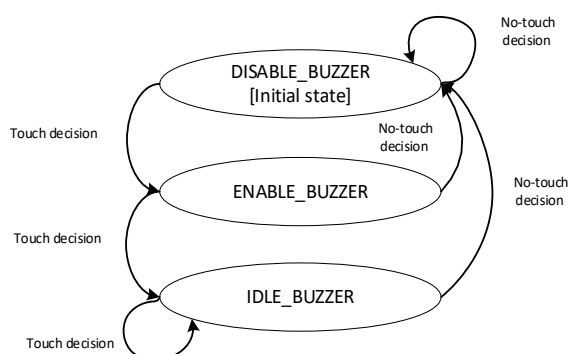

Figure 3-6 Buzzer state transition diagram
- Controls the sounding status of the buzzer. Figure 3-6 shows the state transition diagram of the buzzer state.